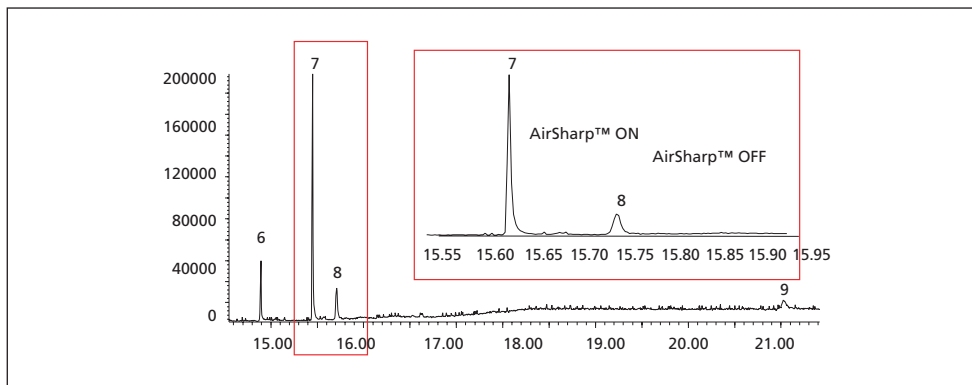

Figure 8. Chromatogram is showing the effects of applying AirSharp™ to Dilantin (6) and Diazepam (7).
The result of this application of the AirSharp™ to both Dilantin (6) and Diazepam (7) is shown in Figure 8. As can be seen from this chromatogram
Using the chromatogram in Figure 8 you can apply AirSharp™ to the Nordiazepam (8) peak in a similar manner as described in steps 1 and 2. This can be seen in the expanded section of Figure 8. As an end